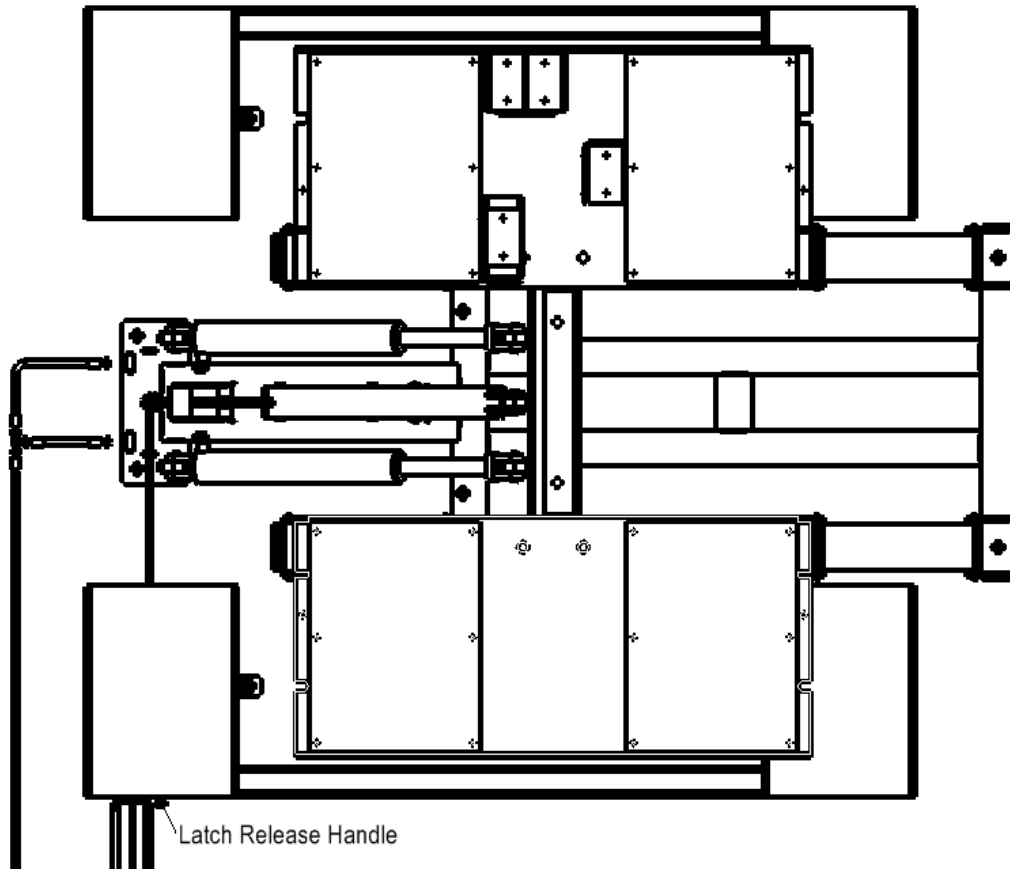

Fig. 10
- C. Rotate the Latch Release Handle, as illustrated in Fig. 10.